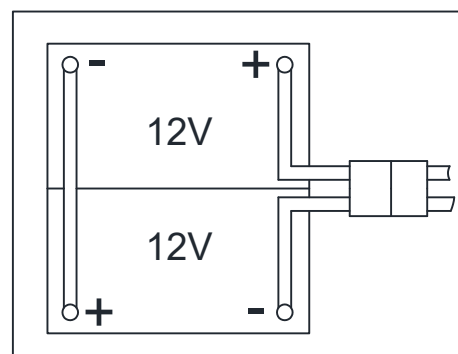

Figure 3
The machine requires two 12 V batteries, connected according to the diagram (Figure3).
1. Open the recovery tank cover (1) and check that the recovery tank (25) is empty; otherwise empty it with the drain hose. (22)
2. Close the recovery tank cover (1).
3. Overturn the recovery tank (25) carefully.
5. Route and install the battery cable as shown in (Figure 3), then carefully tighten the nut on each battery terminal.
6. Place the protection cap on each terminal, then connect the battery connector (54).
7. Carefully lower the recovery tank (25).